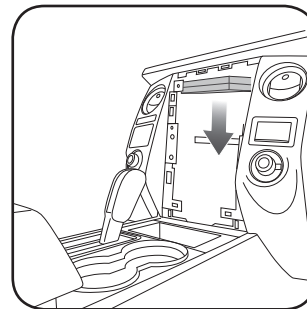

Fig. 1.7
5. Unplug the climate module, above the OEM screen location. Remove One (1) 7mm screw and remove the module. (Fig. 1.7) The climate module will be relocated to the bottom, where the oem radio body was.